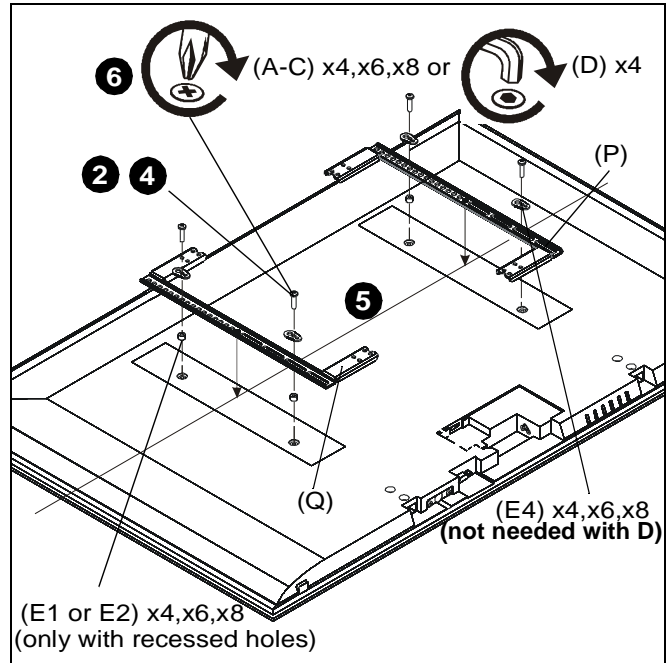
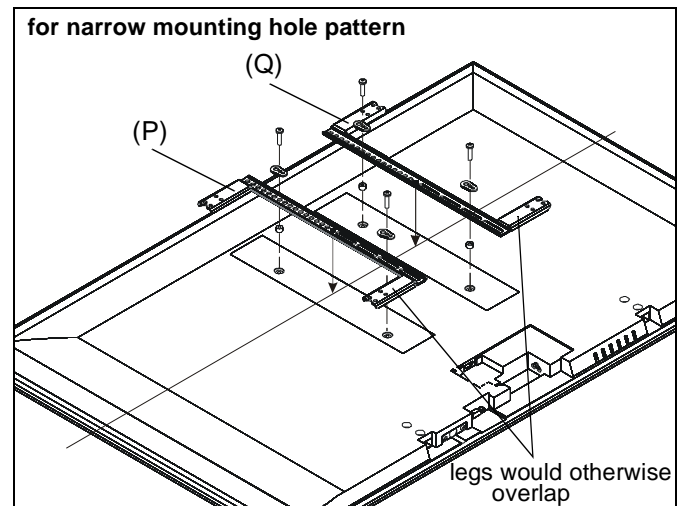

Figure 12
Figure 13
2. Select screw *diameter* by examining hardware (A-D) (4mm, 5mm, 6mm or 8mm) and comparing with mounting holes on display. (See Figure 12)
3. Select spacers: (See Figure 12)
4. Select screw *length*: (See Figure 12)
- NOTE:** Universal washers (E4) are not needed if using M8 button head cap screws (D).
5. Place uprights (P and Q) on display, ensuring: (See Figure 13)
NOTE: If installing to a display with a narrow hole mounting pattern, reverse uprights (P and Q) so that the upright legs do not overlap onto each other. (See Figure 13)
6. Using Phillips screwdriver, carefully install selected screws through universal washers (E4, if required), uprights (P and Q), and spacers (E1 or E2, if required), into display. (See Figure 12)